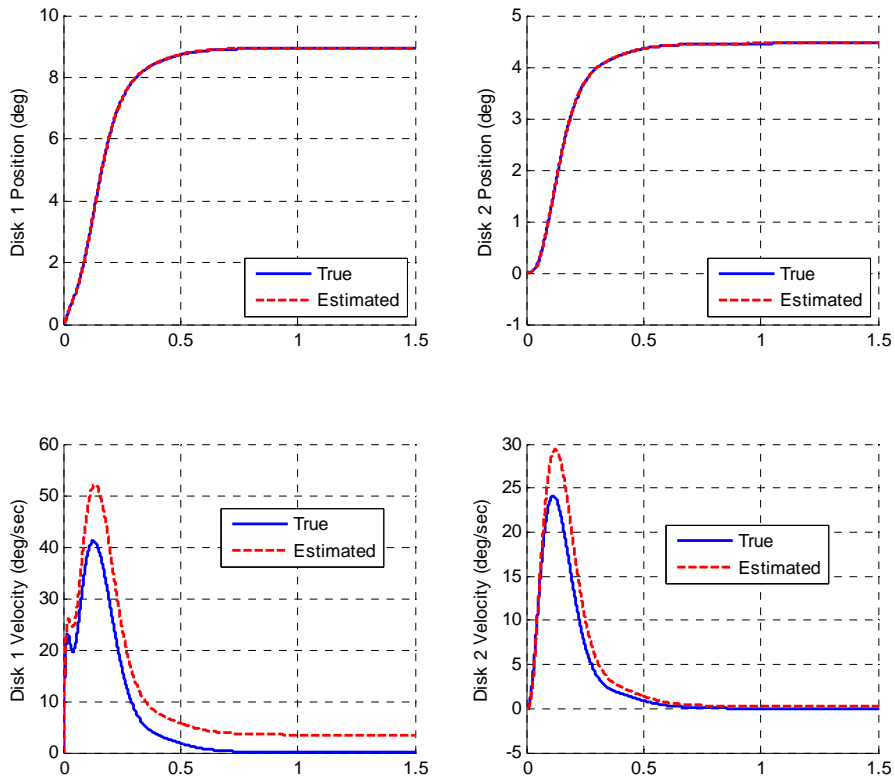

Figure 16. Full order observer for a 2 dof system with a bad model (problem 4f).
f) Now rerun the system with the following changes, $AA = 0.8*A$. The input to the observer is still the position of the first and second disk. You should get results like those in Figure 16.